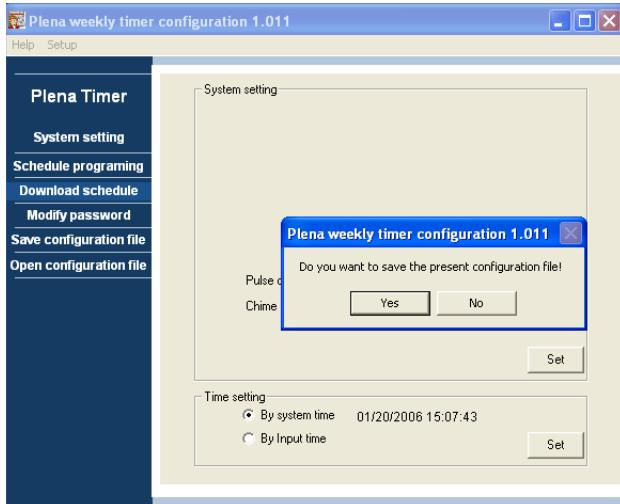

figure 8.17: Download schedule dialog box
- From the main menu, click the Download schedule button. The following dialog box will appear (see figure 8.17).